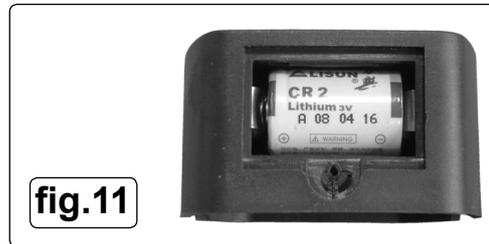

fig.11
6.1.4. Remove and replace battery (fig.11).